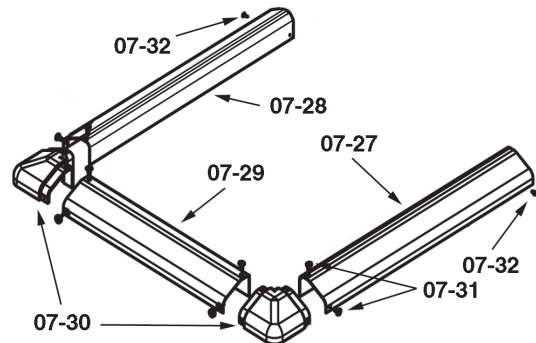

Figure 2
3. Assemble the pedestal base skirting (figure 2). Attach two corner pieces (07-30) to the center section (07-29) of skirting and secure with four (4) 3/8" long truss head sheet metal screws (07-31).
4. Attach the side skirting sections (07-27 & 07-28) to the corner pieces and secure with four (4) truss head screws (07-31).